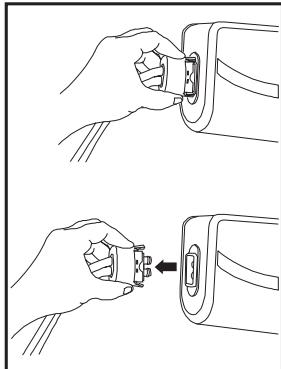

Figure 4 Disconnect Hoses
2. Disconnect hoses from pump to level mattress, as shown at right (Figure 4).